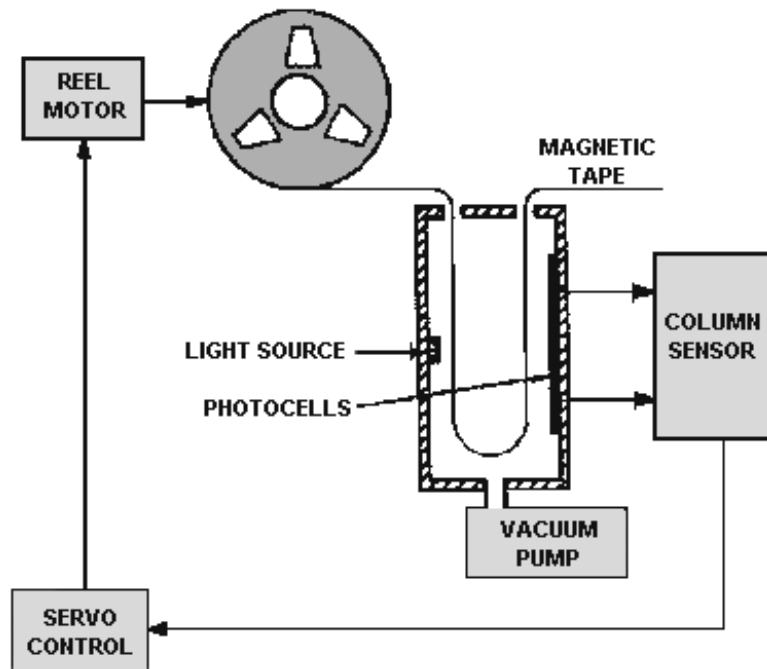

Figure 4-5.—Vacuum-column tape buffering system.
2. **Vacuum-column** buffering systems operate like the spring-tension systems. They also regulate the speed control servos that control tape reel speed. But, as shown in figure 4-5, the vacuum-column buffer system uses a vacuum chamber instead of a spring to hold a length of magnetic tape as *slack* during tape recorder starts and stops. An electronic sensor in the vacuum chamber helps to control how much tape is in the buffer.